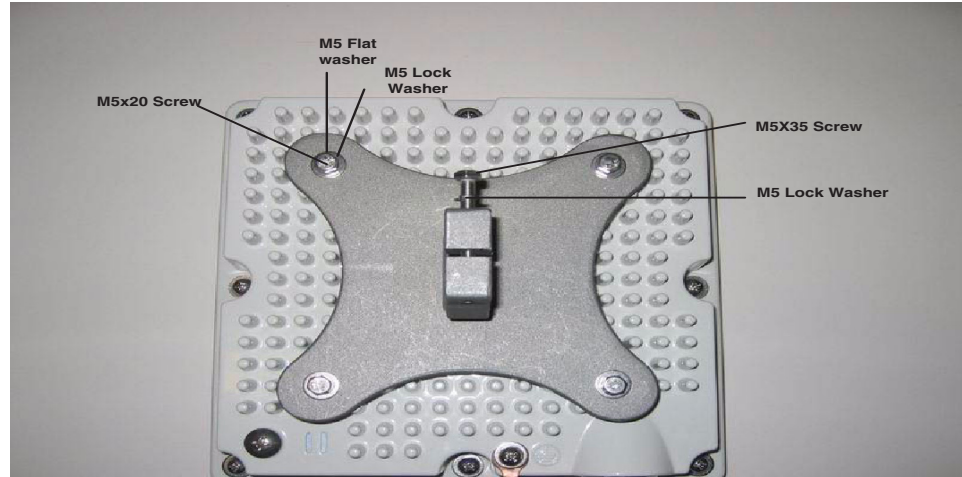

Figure 2-3 Attaching Base Support to ODU
2. Attach the mounting bracket (Base Support) to the ODU using four M5X20 screws provided. Place the Flat washers and M5 Lock washers on the Base Support and then insert M5X20 screw. Tighten the screw. Figure 2-3 shows the M5x20 screws securing the Base Support to an ODU.